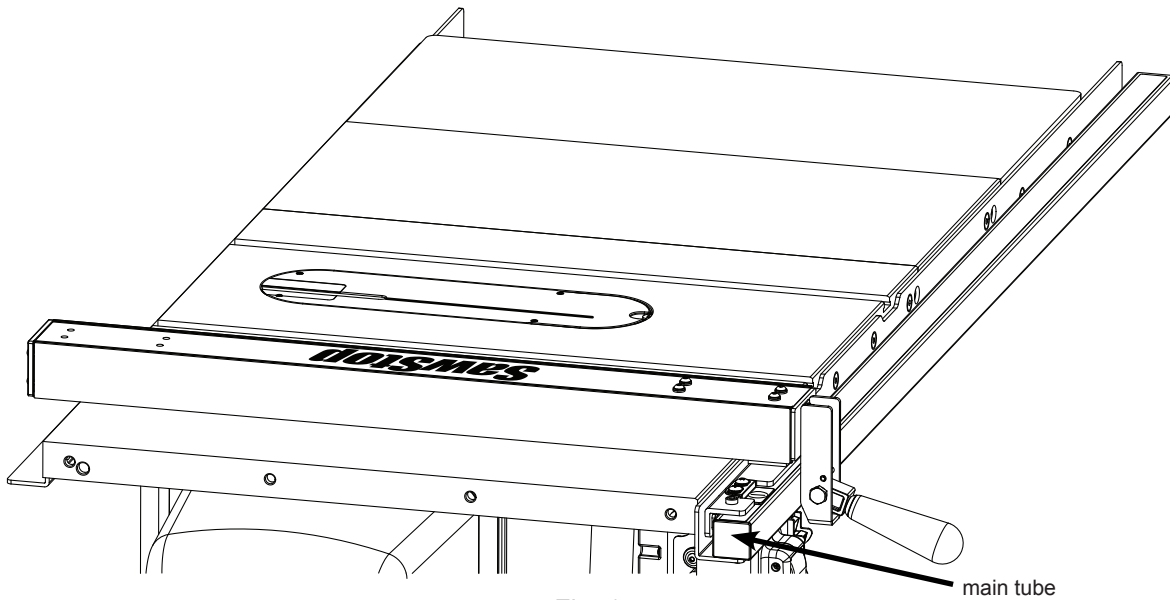

Fig. 15
15. The holes in the bottom of the front rail are oversized to allow you to adjust the position of the main tube on the rail. To set the main tube in the correct position, first pull the main tube away from the cast-iron table as far as possible. Next, place your fence down on the main tube near the left end (see Fig. 15).